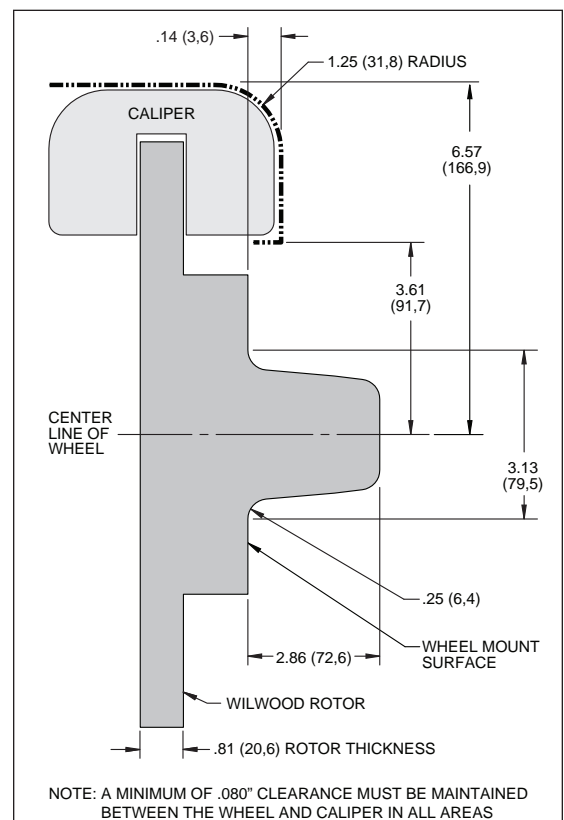

Figure 2. Wheel Clearance Diagram
- Verify wheel clearance utilizing Figure 2.
- Verify the new hub stud pattern in this kit matches the lug pattern of the vehicles wheels. CDP hubs have a 5 x 4.50" and 5 x 4.00" pattern. The 5 x 4.00" pattern does not guarantee fitment with all 5 x 4.00" wheels, either OEM or aftermarket. It is important that the center hole clearance be 3.13" or larger to clear hub snout in the kit, Figure 2.
- WARNING:** The wheel contact surfaces must seat completely on the face of the hub. If any contact surfaces overhang the outside diameter of the hub face, a 6.60" diameter x .20" thick steel spacer (item 22, Wilwood P/N 300-11961) MUST be used between the wheel and the hub.